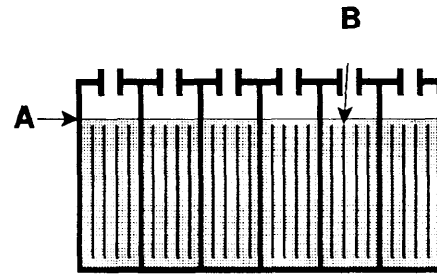

FIG. 31.
6. Check water level (A) in each battery cell. Do not charge batteries unless water is slightly covering battery plates (B). If needed, add just enough distilled water to slightly cover plates. DO NOT overfill. Batteries can overflow during charging due to expansion. Replace cell caps before charging. (Figure 31)